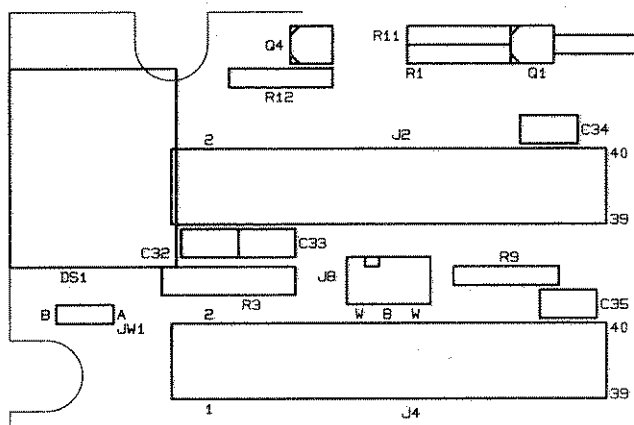

Figure 2-1
- (1) Remove the power cord from the back of the FIREBERD.
- (2) Turn the unit upside down and remove the four screws from the bottom of the FIREBERD case.
- (3) Turn unit right side up, and remove the top cover by simultaneously pressing in on both sides and pulling up.
- (4) Locate PC board #40442 immediately behind the front panel. The pluggable ground jumper is located on the upper left-hand corner of the component side of the board. (See Figure 2-1.)
- (5) Lift the jumper (JW1) from the three-position header (B position) and press it into place one position to the right. (A position.)
- (6) Put the top cover back on, turn the FIREBERD upside down, and fasten the cover back in place by replacing the four screws on the bottom of the FIREBERD case.
- (3) Remove front bezel by pulling forward.
- (4) Slide the top cover forward and lift out.
- (5) Locate PC board #40442 immediately behind the front panel. The pluggable ground jumper is located on the upper left-hand corner of the component side of the board. (See Figure 2-1.)
- (6) Remove the pluggable jumper (JW1) from the three position header (B position) and install it one position to the right (A position).
- (7) Replace the top cover by sliding it through the guides on each side of the case, and ensure that the cover is seated properly in the rear of the FIREBERD.
- (8) Press the front bezel back into place and replace the two screws.